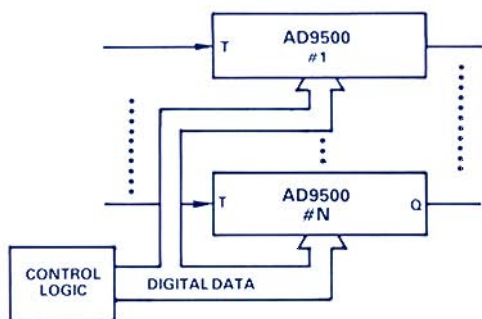

Figure 4. Multiple delay matching.
**Multichannel Deskewing:** A highly effective use of the AD9500 is in multiple delay-matching applications. For example, in a high-speed, high-pin-count logic tester, slight differences in impedance and cable length can create large timing skews. The high speed of modern test systems makes timing accuracy particularly important, and the large number of driver lines (e.g., 128 driver lines with switching capabilities in excess of 100 MHz) requires the use of compensating circuitry. In practice, each signal line would drive an AD9500; its output would drive a logic test-head line (Figure 4). With one line as a standard, the programmed delays of the others are adjusted to eliminate the timing skews.